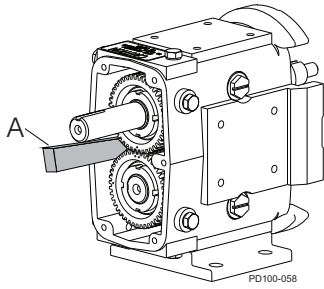

Figure 91 - Block Shaft Rotation
4. Use a wood or nylon block (Figure 91, item A) to keep the shafts from turning. If a block is not available, use rags to block the gears, or with one rotor on the shaft, block the rotor with a nylon dowel.